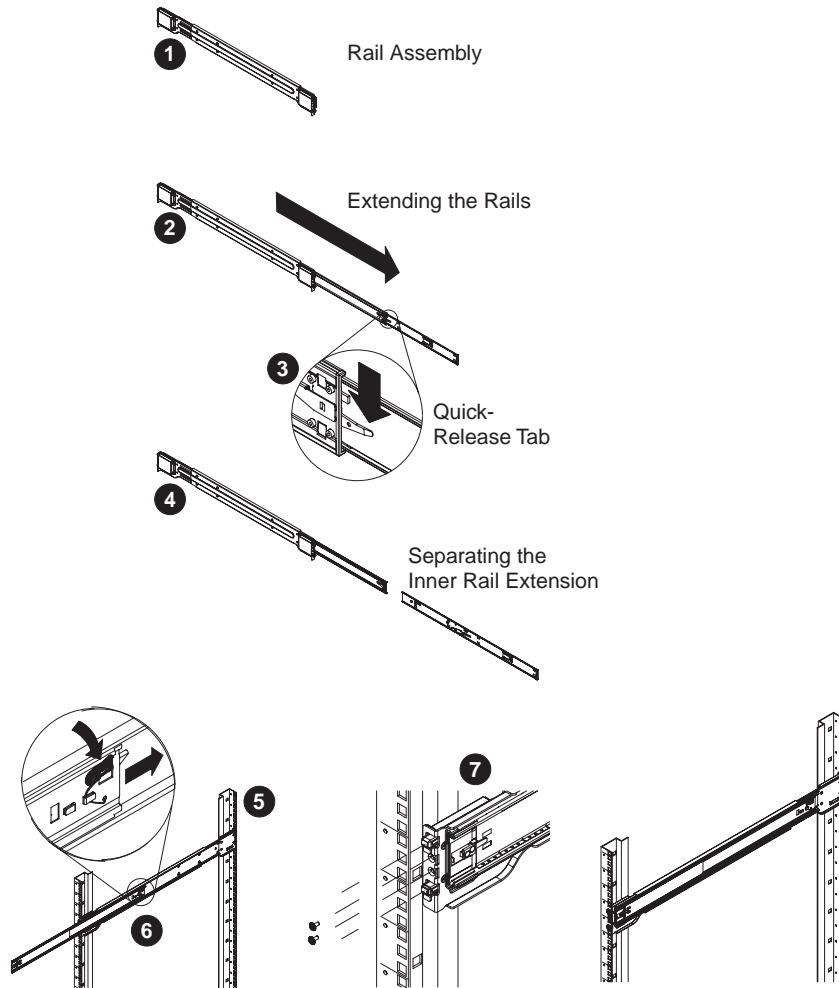

Figure 2-1 Separating and Installing the Rack Rails
1. Locate the rail assembly in the chassis packaging as shown in Figure 2-1.
1. Secure the back end of the outer rail to the rack, using the screws provided (see Figure 2-1).